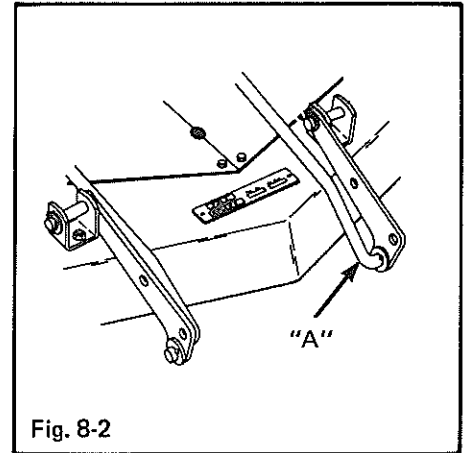

Fig. 8-2
- Remove clevis pins of leveler rods (A), Figure 8-2.